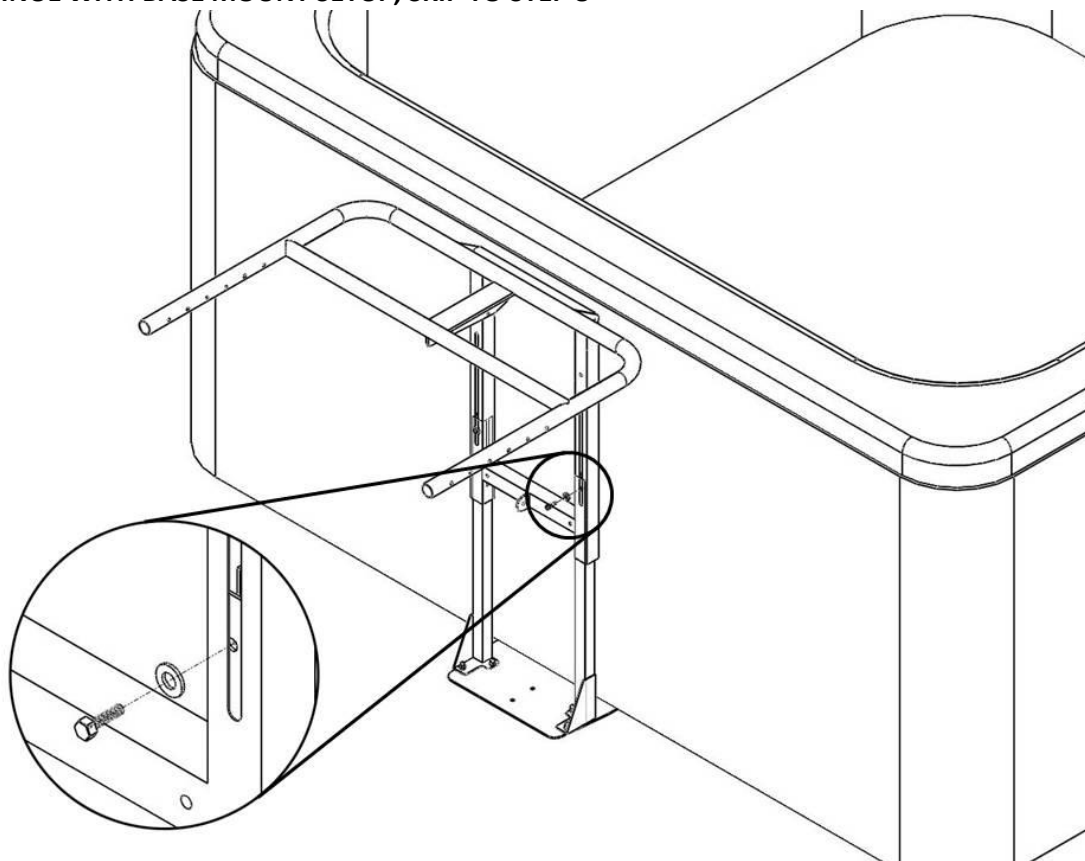

Figure 5
5. Loosely thread the ccE Adjustment Bolt through the ccH Adjustment Bolt Washer and into the threaded holes in the Support Legs. DO NOT tighten the adjustment screws yet. See Fig 5.